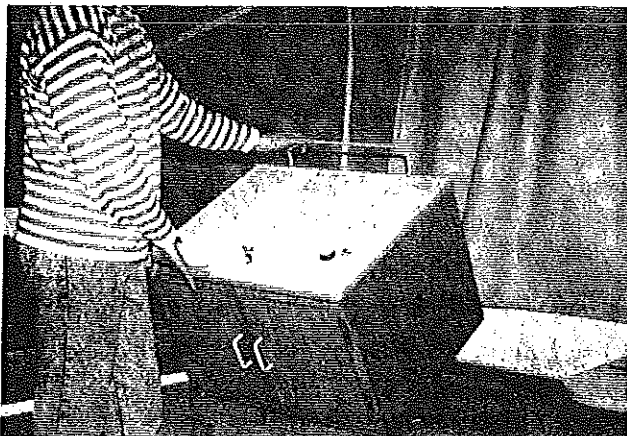

FIGURE 24
29. Grasp module towel bar at the center and rotate 180 degrees toward the outer wall of the trailer until the module is securely seated on the lower galley top. See Figure 24.